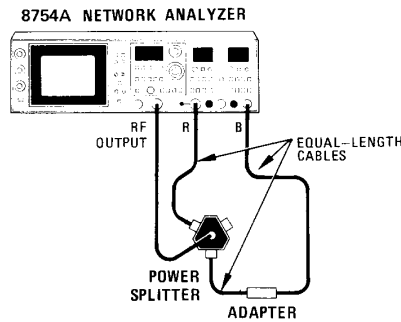

Figure 4-20. Phase Reference Accuracy Test Setup
1. Connect equipment as shown in Figure 4-20.